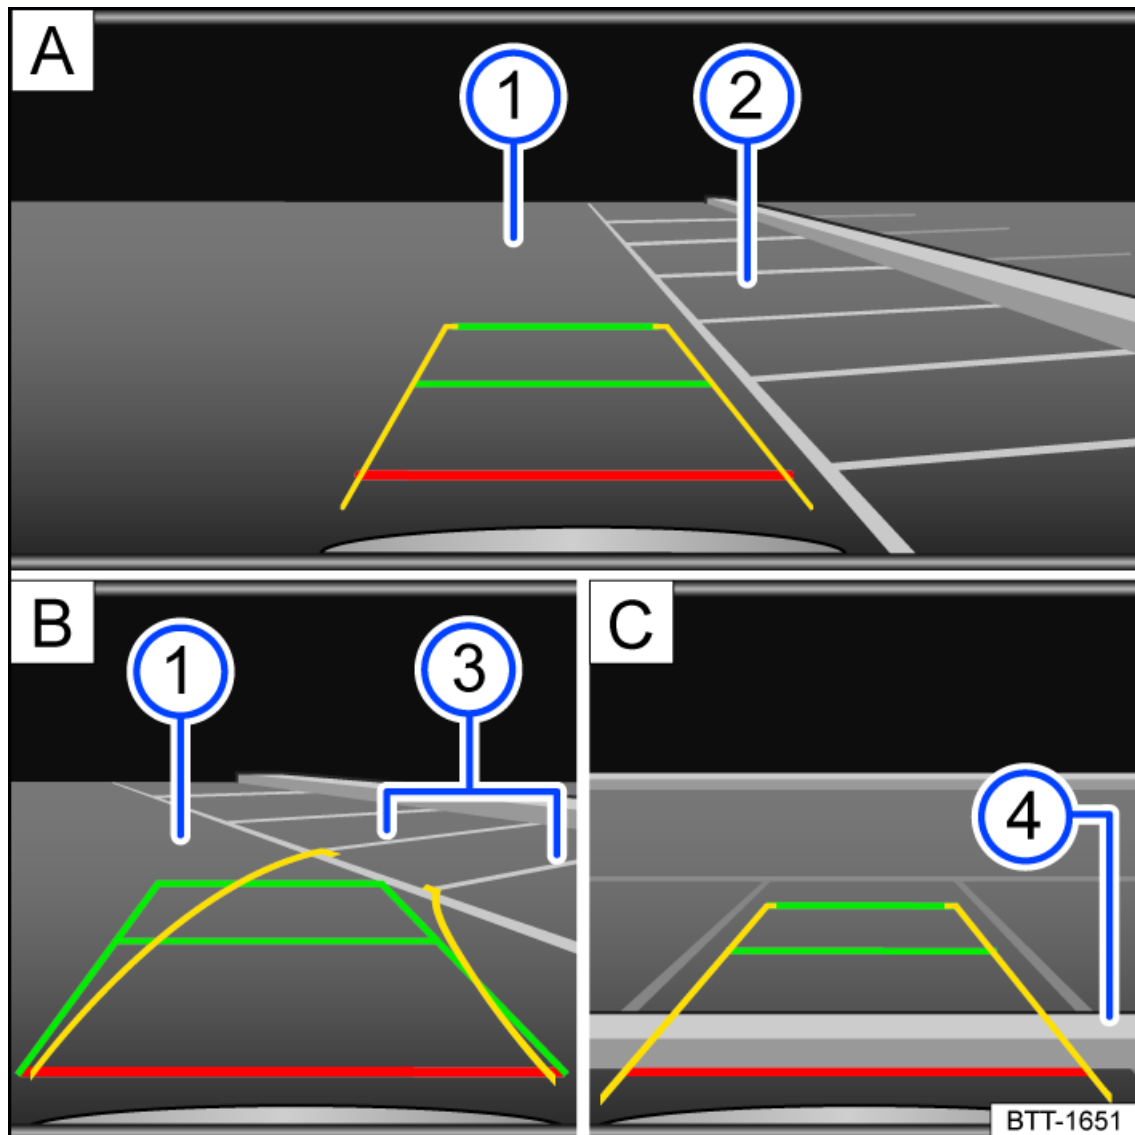

Fig. 114 Infotainment system: Parking perpendicular to the road.
① Road surface.
② Parking space.
③ Side boundary of the parking space.
④ Rear boundary of the parking space.
3. Position your vehicle in front of the parking space *fig. 114*  ②.
4. Steer so that the yellow lines lead into the parking space. The green and yellow lines must align with the side boundary lines *fig. 114*  ③.
5. Stop when the red line reaches the rear boundary *fig. 114*  ④.